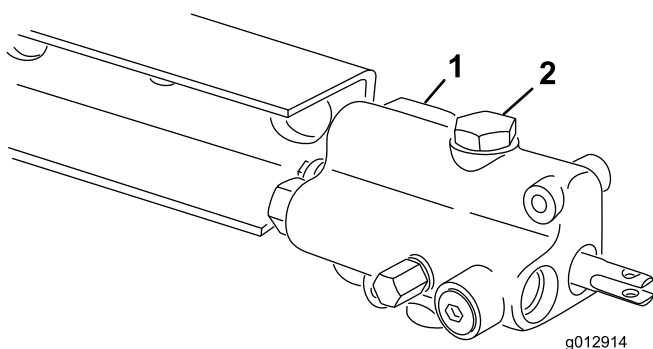

Figure 20
29. On the right frame channel, locate the deck lift valve assembly (Figure 20).
30. Remove the plug from the top of the valve assembly (Figure 20).